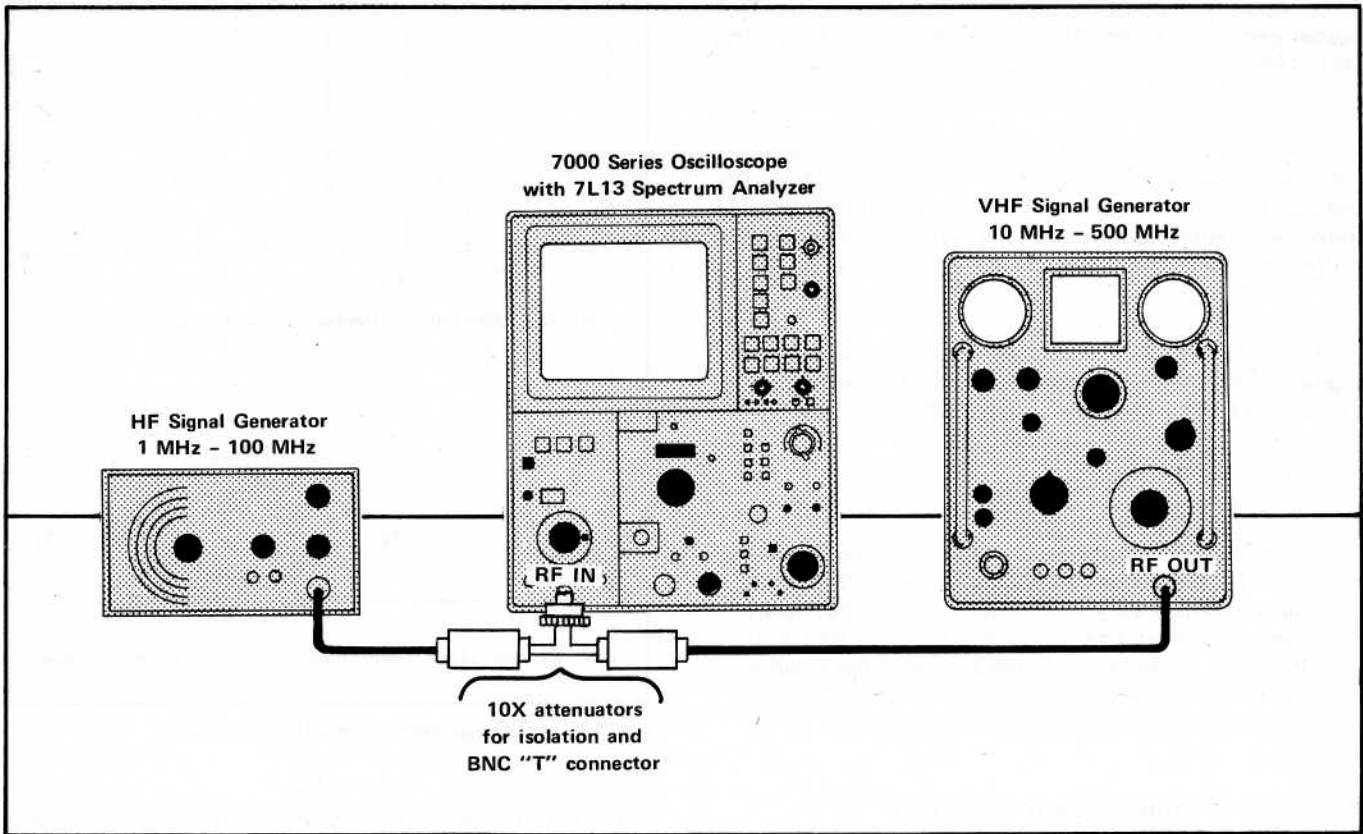

Fig. 3-7. Equipment setup and connections necessary to measure intermodulation distortion.
b. Apply two signals that are separated approximately 2 MHz, from the output of two  $50 \Omega$  signal sources, through 10X attenuators (for isolation), then through a BNC "T" connector, to the RF INPUT of the 7L13. Fig. 3-7 illustrates this setup.